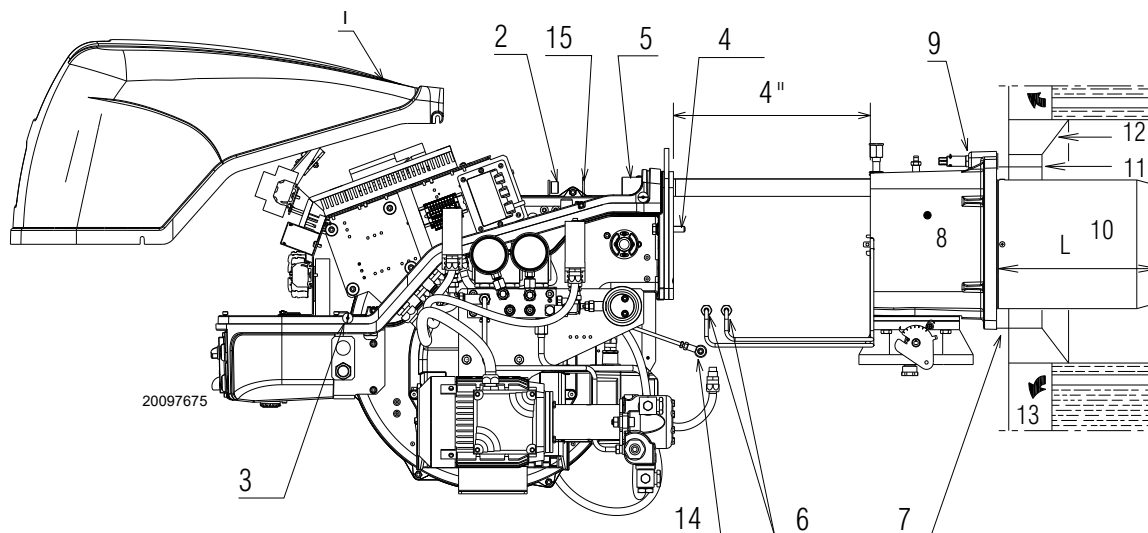
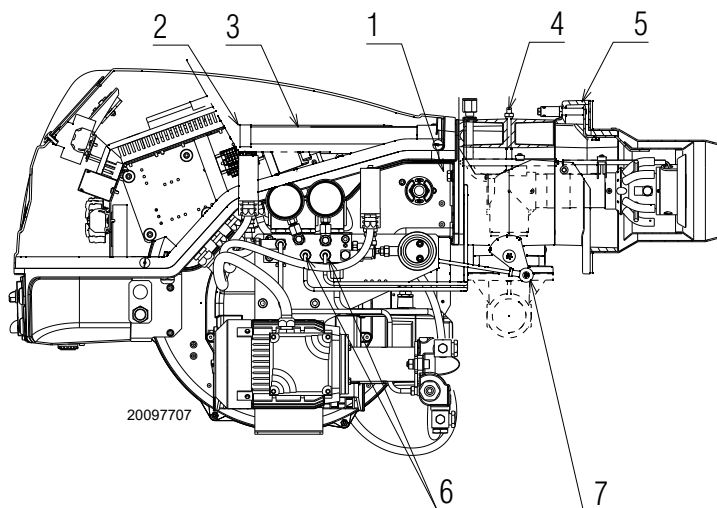

Fig. 11
Fig. 21
This protective insulation must not compromise the extraction of the blast tube. For boilers having a water-cooled front, the insulation 11)-12)(Fig. 11) is not required unless it is required by the boiler manufacturer.
Detach the combustion head from the burner (Fig. 11):
- Refit the burner to the slide bars 3)(Fig. 21) at approximately 4" from the sleeve 4) - burner positioned as shown in Fig. 11, page 18 - insert the ignition electrode cables.
- Slide the burner up to the sleeve so that it is positioned as shown in Fig. 21;
- refit screws 2)(Fig. 21) on slide bars 3) including the safety plate 15)(Fig. 11, page 18);
- connect the oil pipes again by screwing on the two connectors 6)(Fig. 11, page 18).